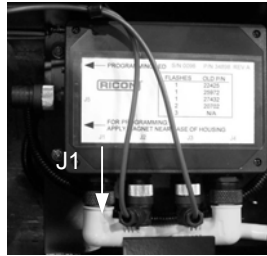

Fig. 1
- 1) The controller must have the power off. To cut power from the controller, disconnect J1. Refer to Figure 1.
- 3) Once the magnet is in place, connect J1 to the controller like in Figure 1. With the controller connected, connect ramp to power.